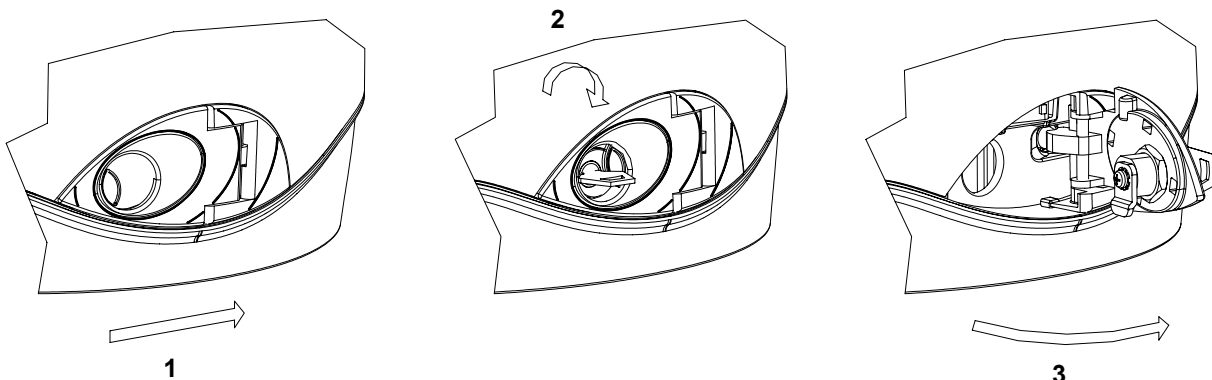

Fig.2
**Manual manoeuvre:** To move the gate manually proceed as described below (Fig.2):